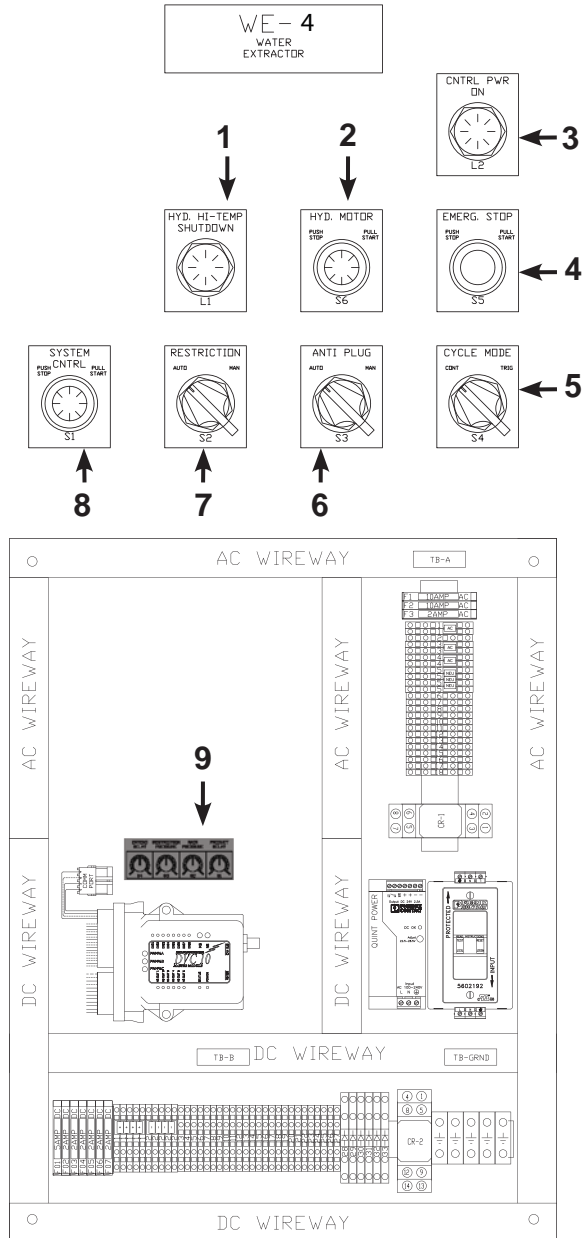

Figure 21 - Control Box
1. Push the EMERG STOP switch (see Figure 21 Page 8). This stops the plunger and kills all power to the water extractor.